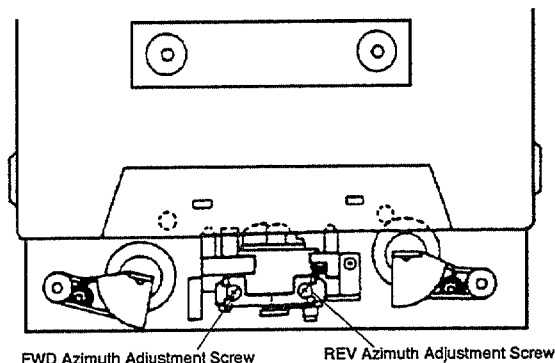

Fig. 4 Head Azimuth Adjustment
- Adjustment point and test point are shown Fig. 4 and 6.
(1) Tape Speed Adjustment